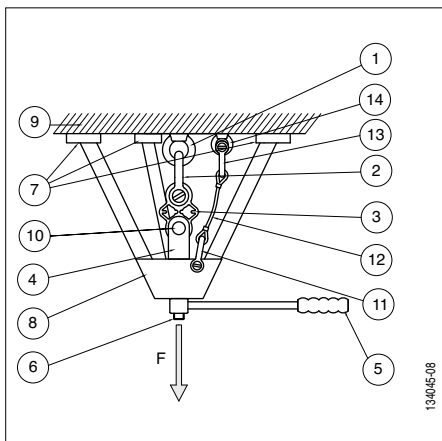

Fig. 6
- 1 manually-operated loaded device, tripod type (see fig. 6, section 4.2, page 11),
- 1 safety device to secure the loading device in the event of shearing of the anchor point tested, comprising of (see fig. 6, page 11):
- 1 safety sling of appropriate length (see fig. 6, sections 4.2 and 4.3, page 11),
DANGER: To test an anchor point using the TA test plate, the operator must use a manually activated tripod loading device specifically designed and sized for placing under traction load without risking the anchor point to be tested (fig. 6, page 11) or any other apparatus placed under a load in traction of the TA test plate especially designed and sized to be used in complete safety.
Refer to fig. 6 for the procedure detailed below.
All of the procedure described below relates to fig. 6.
- 1) Gradually increase the load by acting on the loading device (fig. 6, page 11, item 8). The operator must continuously observe the plate in order to stop the loading operation immediately on shearing of the 'S' section of the plate (fig. 9).
Refer to figure 6, page 11, for the procedure detailed below.